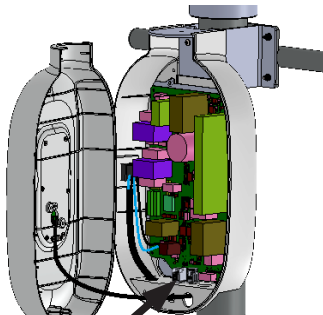

Figure 15: Connect cable to J4 connector .
- Tie the cables using cables ties on the cable mounts located at the right inner side the base unit rear cover. Route the console cable through the hole and connect the cable to the J4 connector from the bottom side of the base unit as shown in Figure 15.